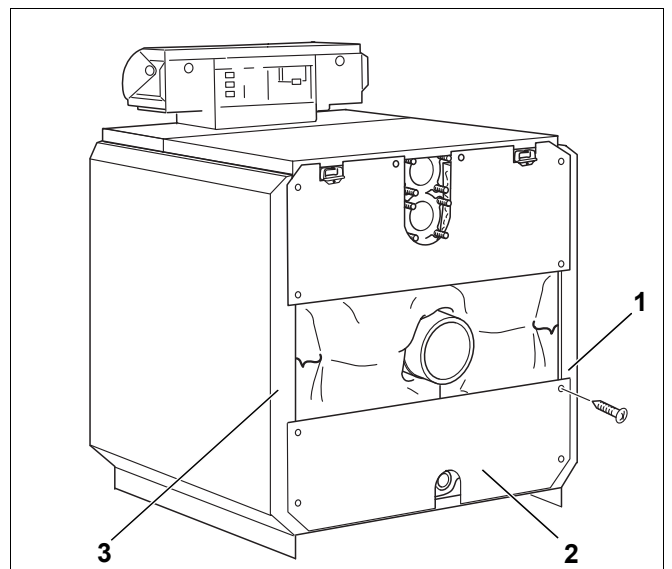

Fig. 40 Installation of the lower boiler back wall
- Secure the lower rear boiler wall (Fig. 40, **Item 2**) – with the cut-out for the fill/drain cock at the bottom – on the side walls (Fig. 40, **Item 1 & 3**).